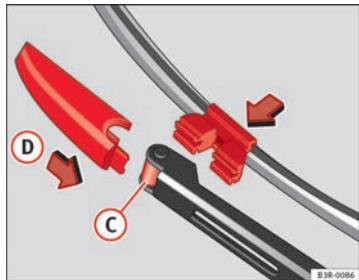

Fig. 186 Fitting the wiper blade
- Fit the new wiper blade into the mounting on the wiper arm ⇒ Fig. 186 (C).
- Slide the retainer catch on the wiper blade in direction (D) so that it clicks into place on the wiper arm.